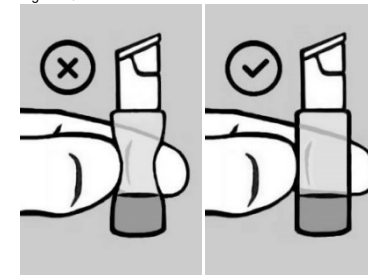

Figure 2 / Kuva 2
- Open the cap carefully without squeezing the vial (Figure 2).